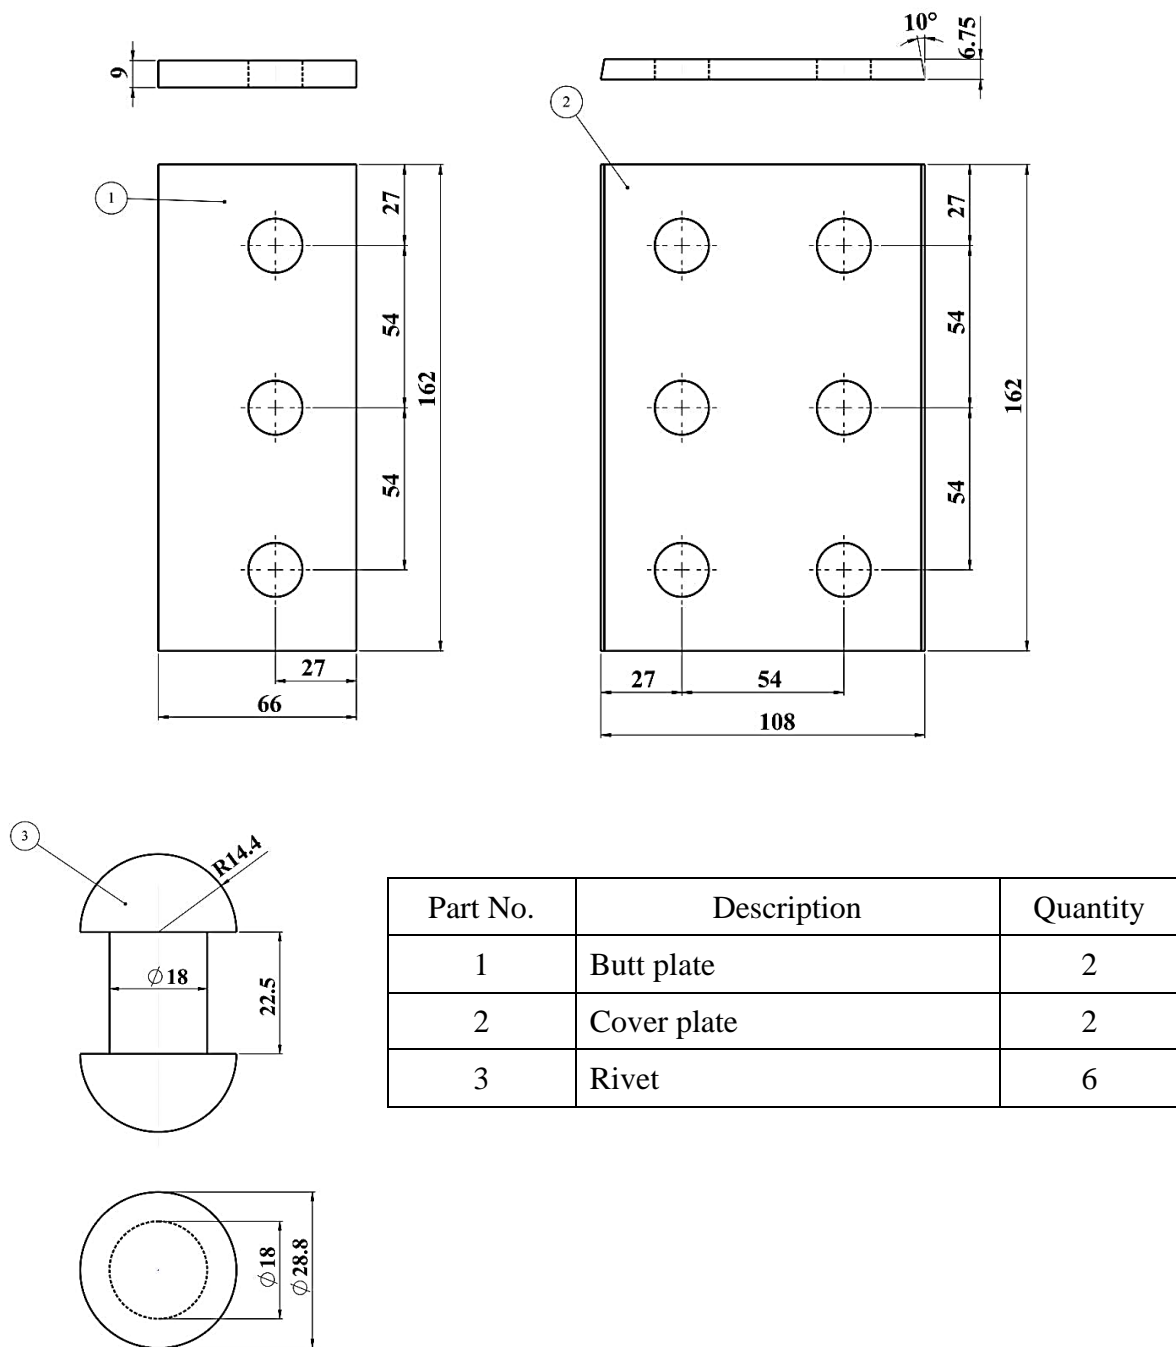

Figure 10.2: Part drawings of Single riveted butt joint with double cover plate.
10.2 Create a 3D assembly of double riveted butt joint with double cover plate chain riveting as shown in Figure 10.2. Show three rivets in each row.